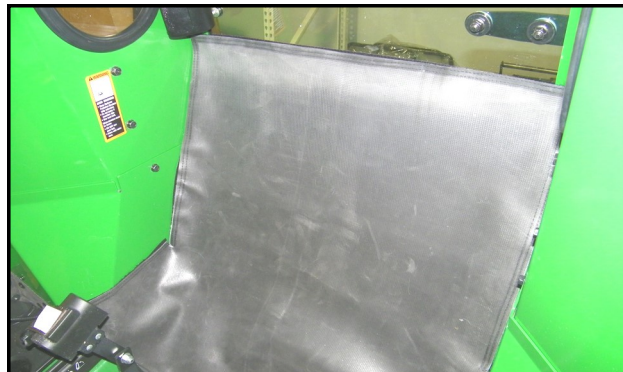

Fig. 24.2 (Install Under Seat Filler)
- 24.2** Slide the seat forward and then tip up onto the steering wheel. Set the filler in place, per figure 24.2. Adjust the Velcro so that the back will be on the glass above the rubber seal, the sides are on sheet metal and the corners of the filler roughly line up with the corners of the rear legs, and the front edge is far enough back to not interfere with the function of the levers and knobs.